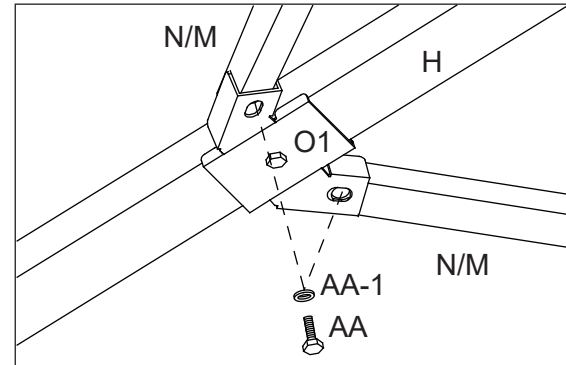

Figure 15-4
15.4: Attach the Horizontal Main Roof Supports (N, M) to the Connector (O1) using Bolts (AA) and Steel washer (AA-1). See Figure 15-4.